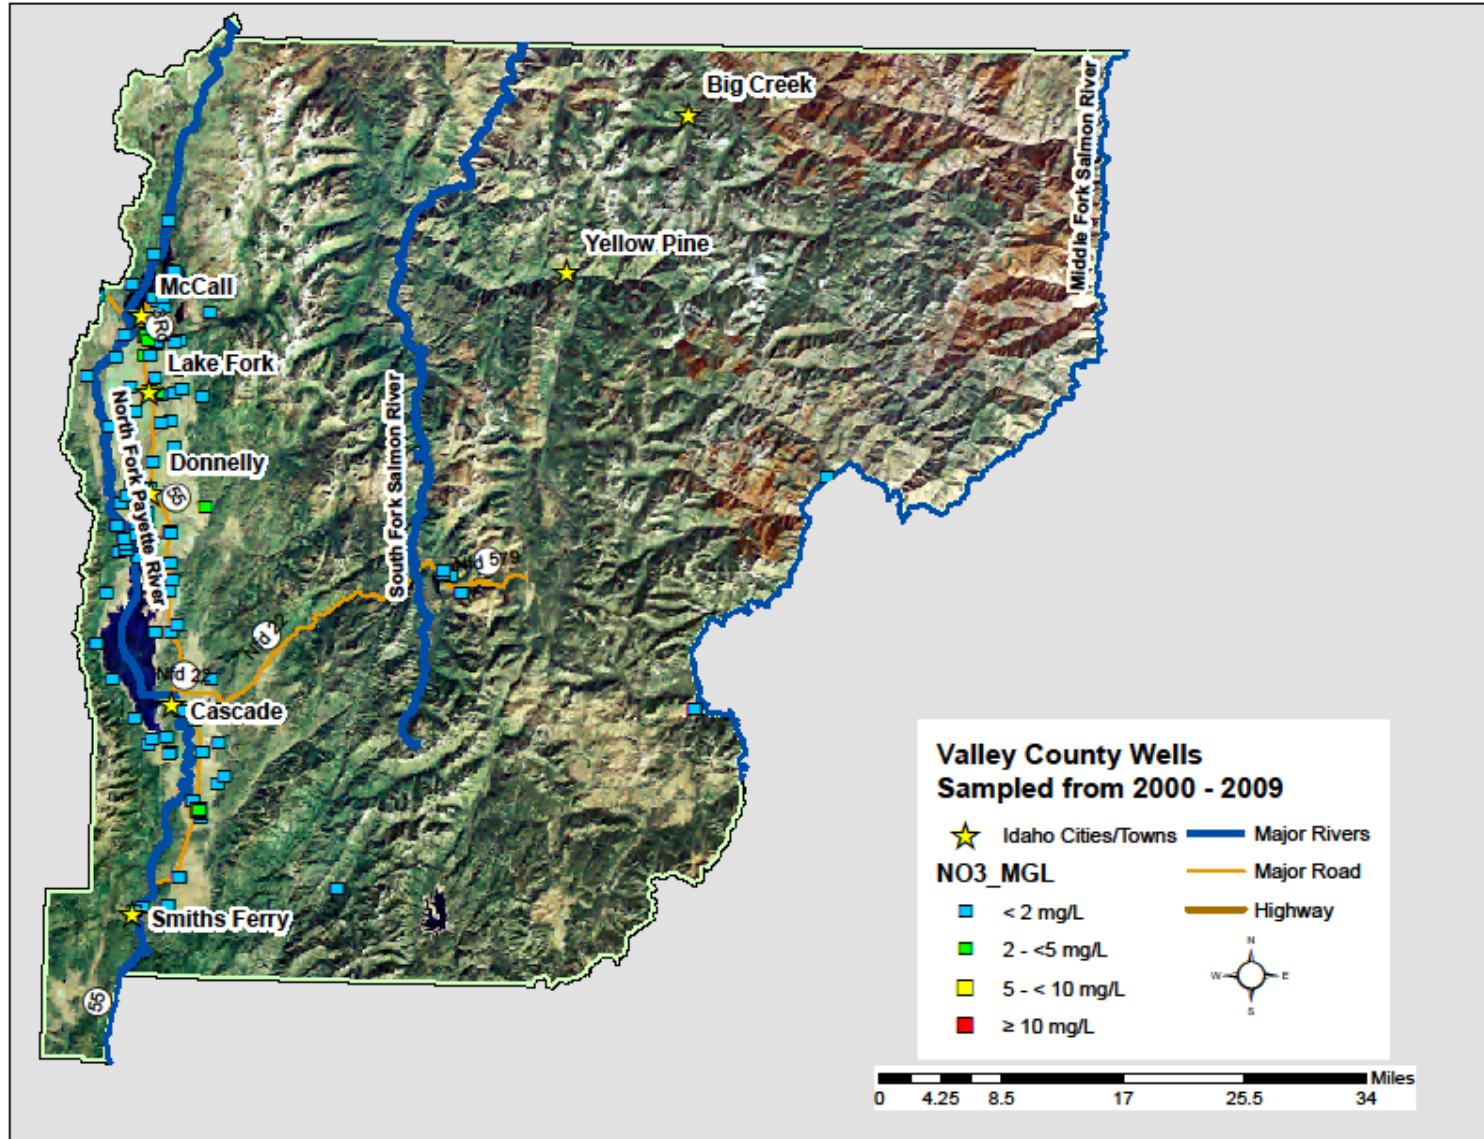

Figure 4-1. Wells sampled in Valley County from 2000 to 2009.
**There are no NPAs identified in Valley County at this time** (Figure 4-1).